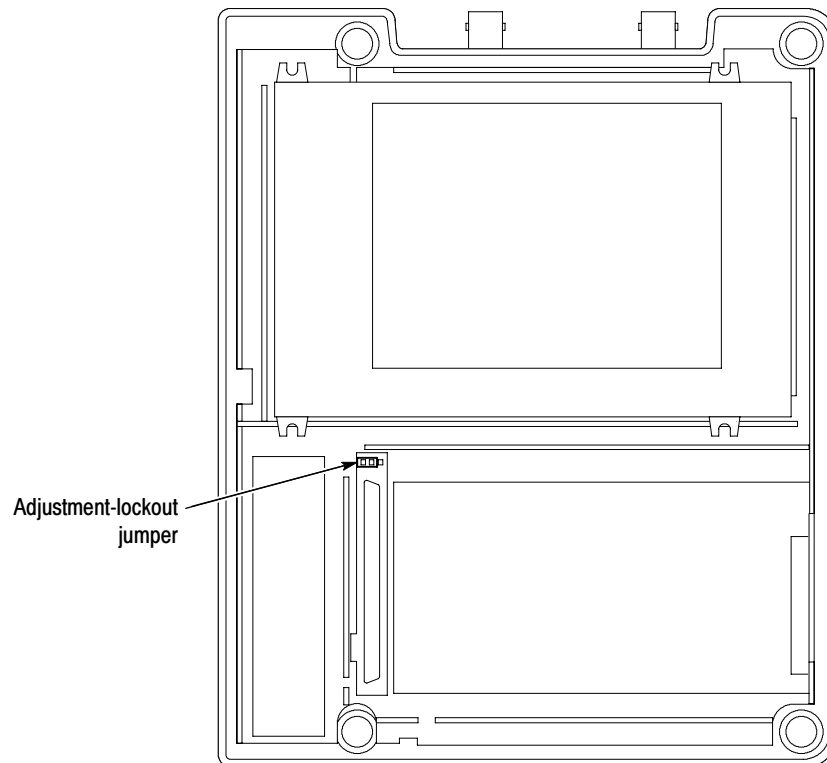

Figure 7: Location of adjustment-lockout jumper
8. Fold the switch flex-circuit assembly toward you to expose the display module, inverter board, and adjustment-lockout jumper. The jumper location is shown in Figure 7.